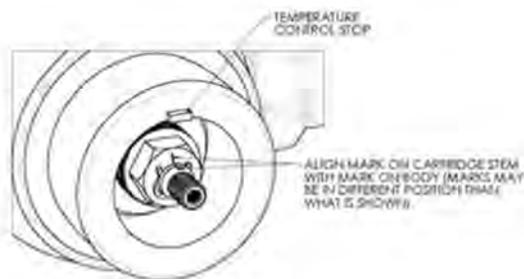

FIG. 15
8. Align the red mark on the thermostatic cartridge stem with the red mark on the cartridge body. This is the 105° calibrated temperature setting (fig. 15).